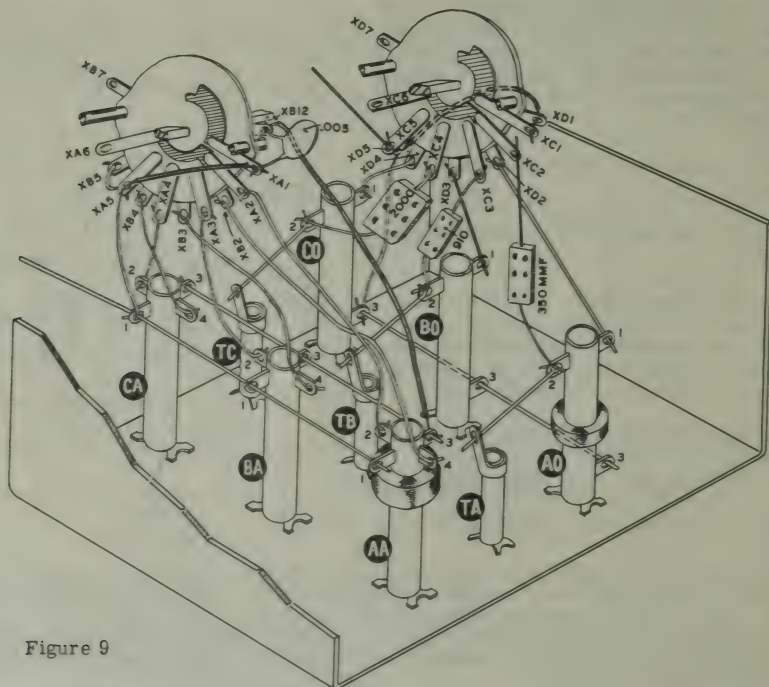

Figure 9
- ( ✓ ) Connect a bare wire from TA (S) to AO2 (NS).
- ( ✓ ) Connect a bare wire from TB (S) to BO2 (NS).
- ( ✓ ) Connect a bare wire from TC (S) to CO2 (NS).
- ( ✓ ) Cut one lead of a 350  $\mu\text{f}$  mica capacitor (orange-green-brown) to 5/8". Connect to AO2 (S). Leave the other end free.
- ( ✓ ) Cut one lead of a 910  $\mu\text{f}$  mica capacitor (white-brown-brown) to 5/8". Connect to BO2 (S). Leave the other end free.
- ( ✓ ) Cut one lead of a 2000  $\mu\text{f}$  mica capacitor (red-black-red) to 5/8". Connect to CO2 (S). Leave the other end free. Use care when connecting the lead to the coil terminal to prevent breakage due to the heavier lead wire used.
- ( ✓ ) Mount the bandswitch X as shown. Do not tighten securely as the nut will be removed later when mounting the coil and switch assembly in the receiver. See Figure 9.
NOTE: Contact lugs on the front face of the switch wafer nearest the panel are numbered XA1, XA2 etc. Contact lugs on the rear face of this wafer have XB numbers. Lugs on the rear wafer have XC and XD numbers. See Figure 9 for detailed numbering.